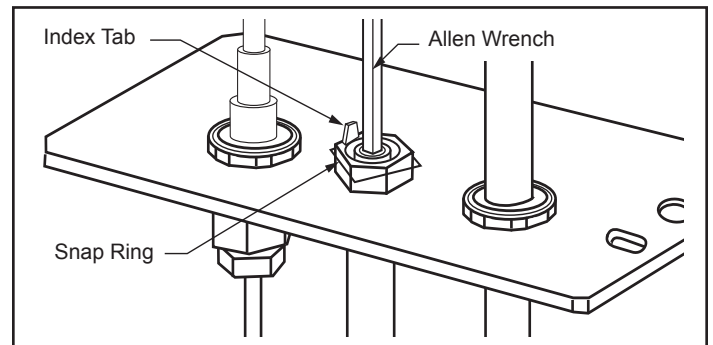

Figure 11 - Remove pilot orifice.
4. Remove pilot orifice with Allen wrench. (Figure 11)